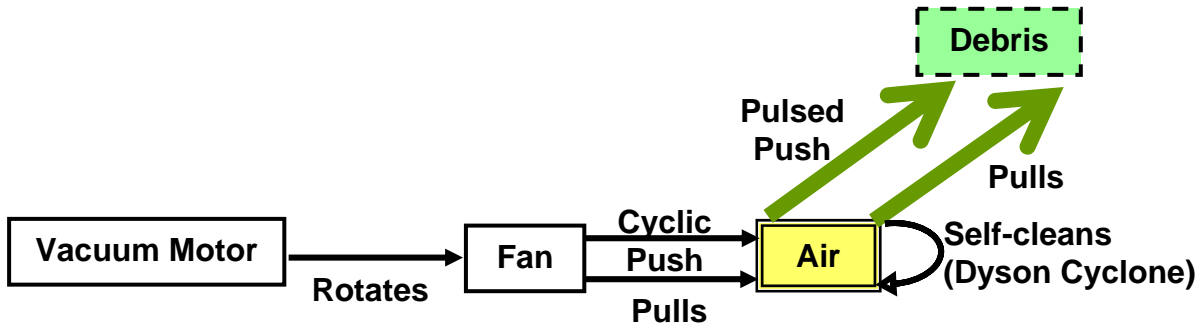

Figure 11. 'Pruned' and reconnected vacuum cleaner function diagram
*One final comment regarding the air filter problem above. The Invention Matrix, to be discussed in technique 5, could have been used as well to provide the same answer. If debris removal is improved using a filter, attribute 26: Quantity of Substance then attributes 22: Energy, reduce air flow deteriorates. At the column/row intersection resides Inventive Principle, 22, Self-service, i.e. self-cleaning air. Please refer to Figure 11, for the pruned and reconnected function diagram of the vacuum cleaner. (Note: If we were really stuck for a solution, use of the Physical Effects software² database, discussed in technique 7, might provide answers. By entering search words like filter, the data base would suggest numerous alternatives including the use of centrifugal force.)